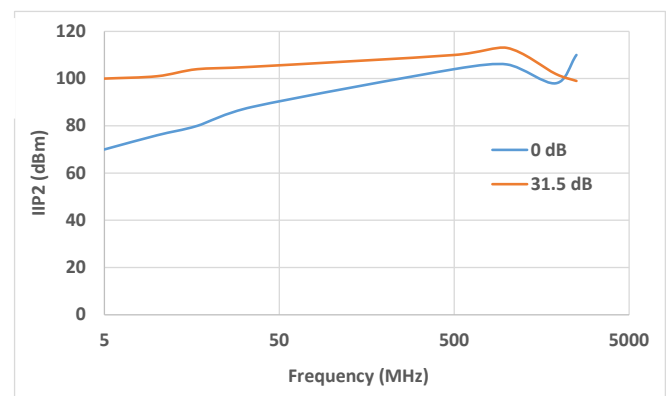

Figure 1. IP2 vs. frequency and attenuation
For latched parallel programming the Latch Enable (LE) should be held LOW while changing attenuation state control values, then pulse LE HIGH to LOW (per Figure 1) to latch new attenuation state into device.